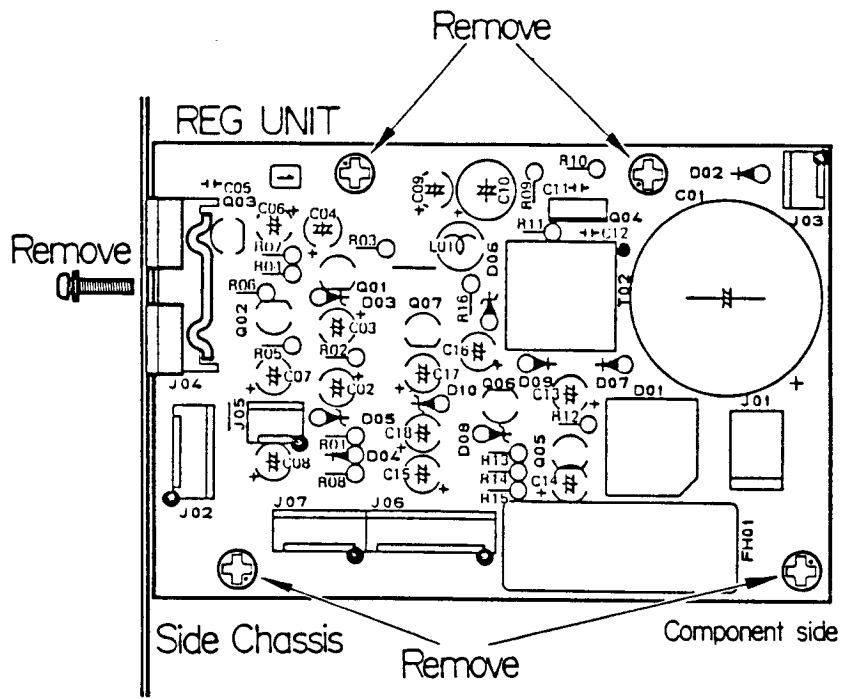
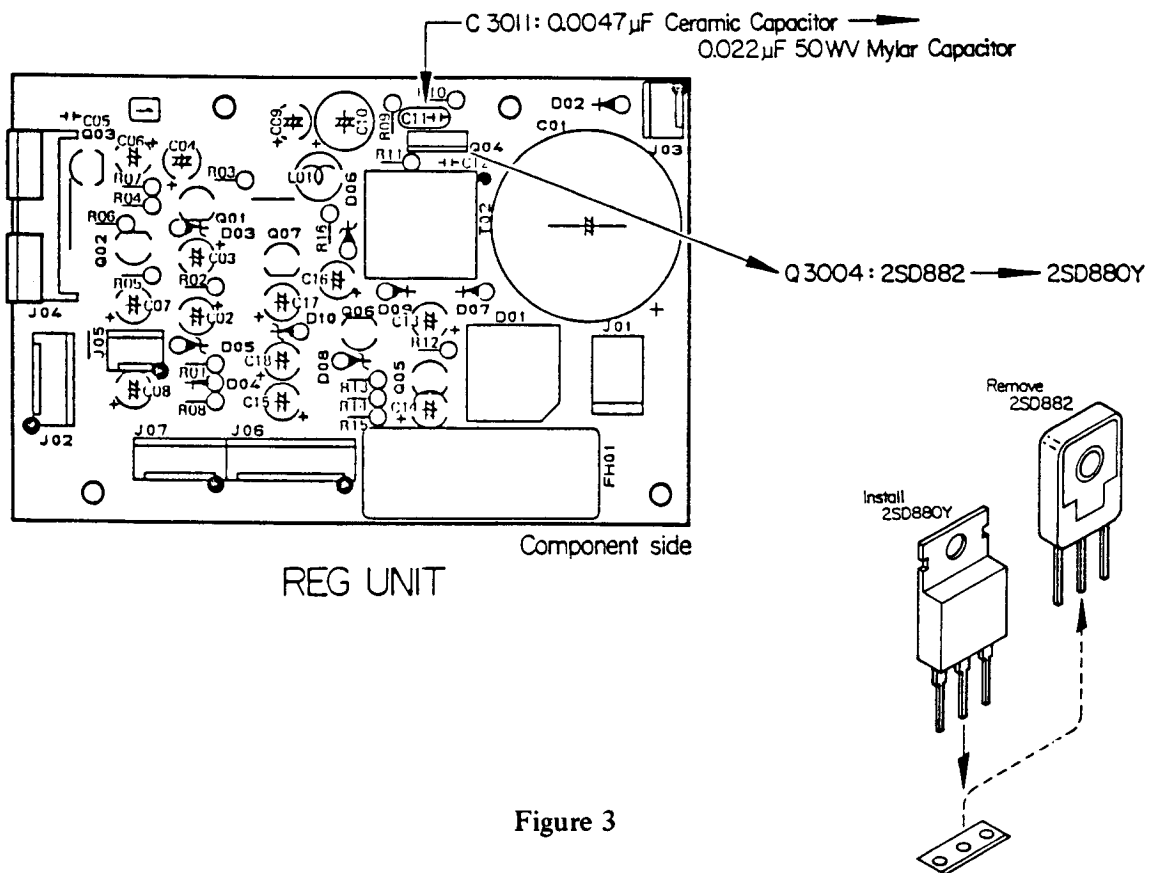

Figure 2
Figure 3
- (1) Disconnect the power cord and remove a backup battery from the compartment in the rear panel.
- (2) Remove the two screws affixing the carrying handle, and remove the handle.
- (3) Remove the lower two screws from the left side and two screws from the bottom of the case, and remove the bottom cover.
- (4) Referring to Figure 2, remove the five screws affixing the REG Unit, to allow access to the solder side of the Unit.
- (5) Remove 0.047 $\mu$ F ceramic capacitor C3011, and replace it with a 0.022 $\mu$ F, 50WV Mylar type.
- (6) Remove type 2SD882 transistor Q3004, and install a type 2SD880Y in its place. Note that the packaging and pinout of these two types are different, as shown in Figure 3.
- (7) Replace the REG Unit and its five screws, and then the bottom cover, handle and screws removed in steps (2) and (3). Replace the backup battery and the power cord.